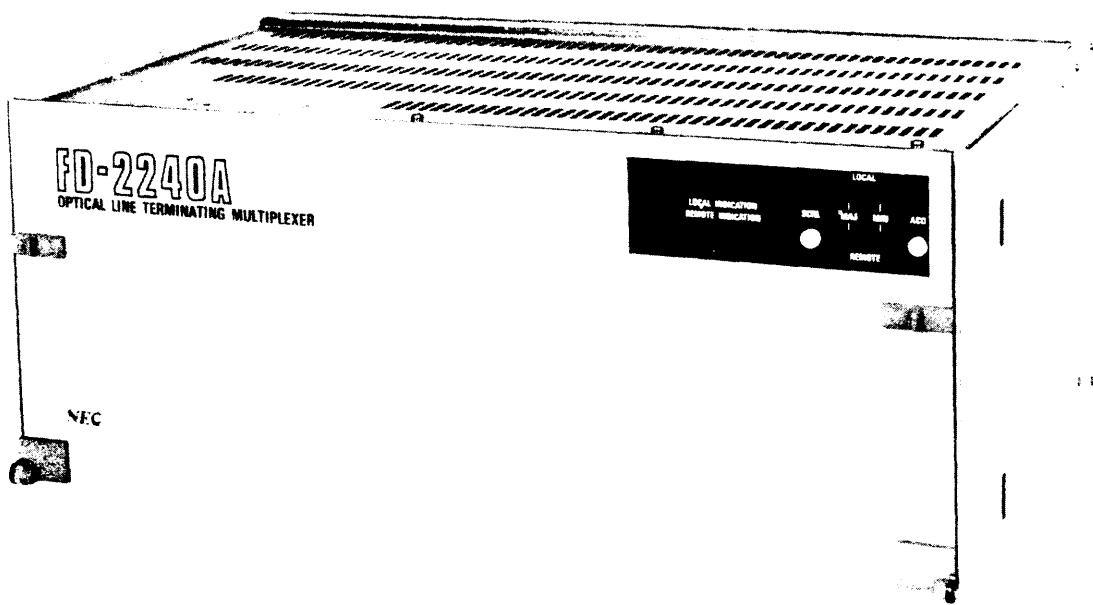

Figure 1-1 FD-2240A 6.3MB Optical Line Terminating Multiplexer, Front View (Cover Close)
- 1.04 The FD-2240A 6.3MB O-LTM, shown in Figures 1-1 through 1-3, is a multi-purpose 6.312 Mb/s digital transmission terminating equipment.